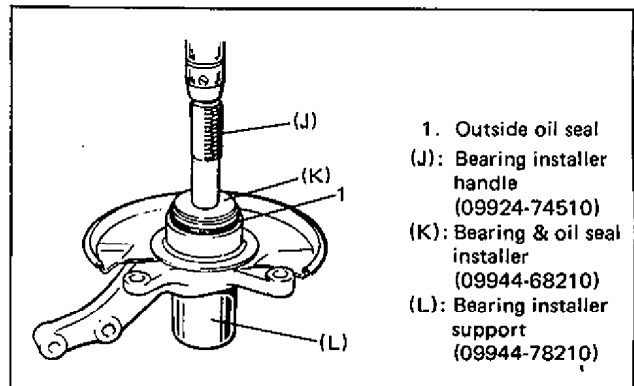

Fig. 3D-6-10
Drive in oil seal until its end contacts snap ring using special tools (J), (K) and (L). As for its installing direction, refer to Fig. 3D-6-10.